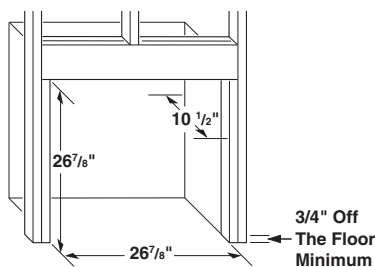

Figure 5 - Rough Opening for Installing in Wall
1. Frame in rough opening. Use dimensions shown in Figure 5 for the rough opening.